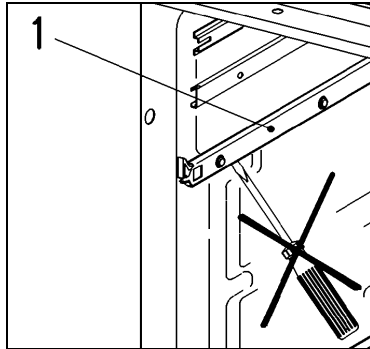

Figure 5-7: Basket Guide
The basket guide must not be levered off in the area of the bolts (see Figure 5-7). This could result in damage to the cabinet walls.
3. Slide out the basket guide (Figure 5-7, Item 1) until the clip (Figure 5-8, Item 1) between the bolt on the cabinet wall and the basket guide is visible.